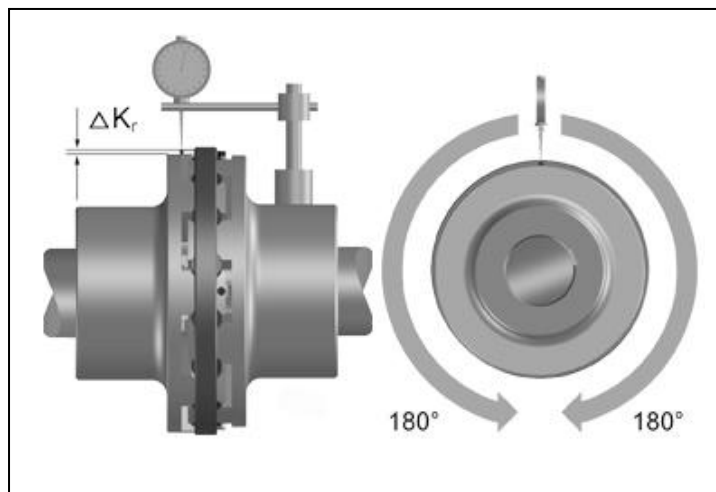

Fig. 7
- Measure one complete revolution (360°). Determine the largest deviation  $K_{r1}$  and the smallest deviation  $K_{r2}$  (Fig. 7).